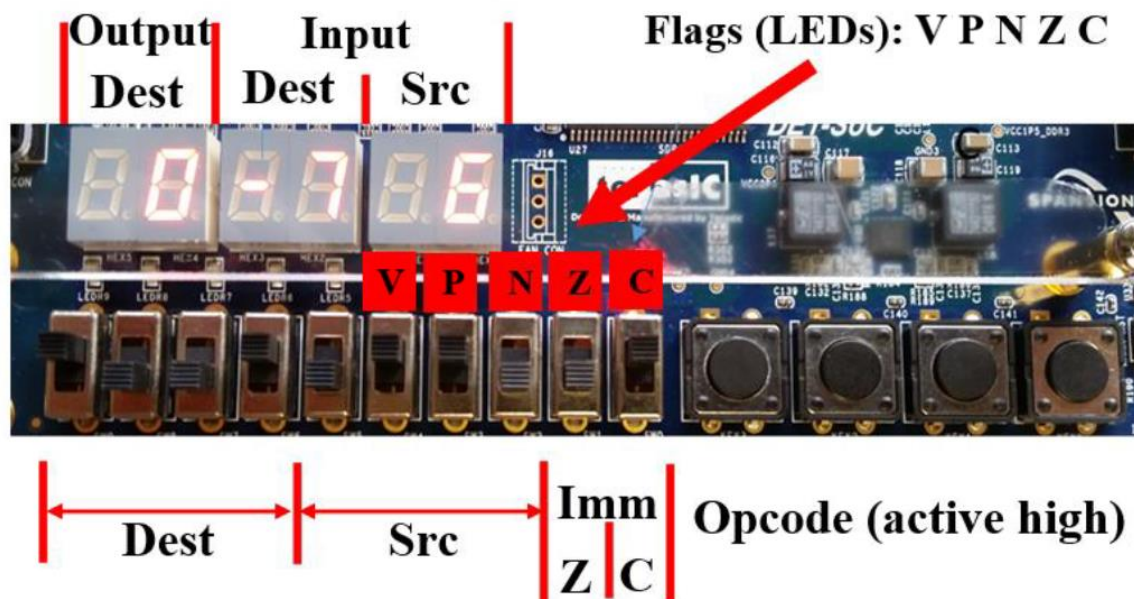

Figure 1. DE1-SoC connections
- *AluFpgaTop.sv* – A module called *AluFpgaTop* that instantiates the ALU and connects the inputs and outputs of the DE1-SoC as shown in figure 1. This file is NOT used in simulation.